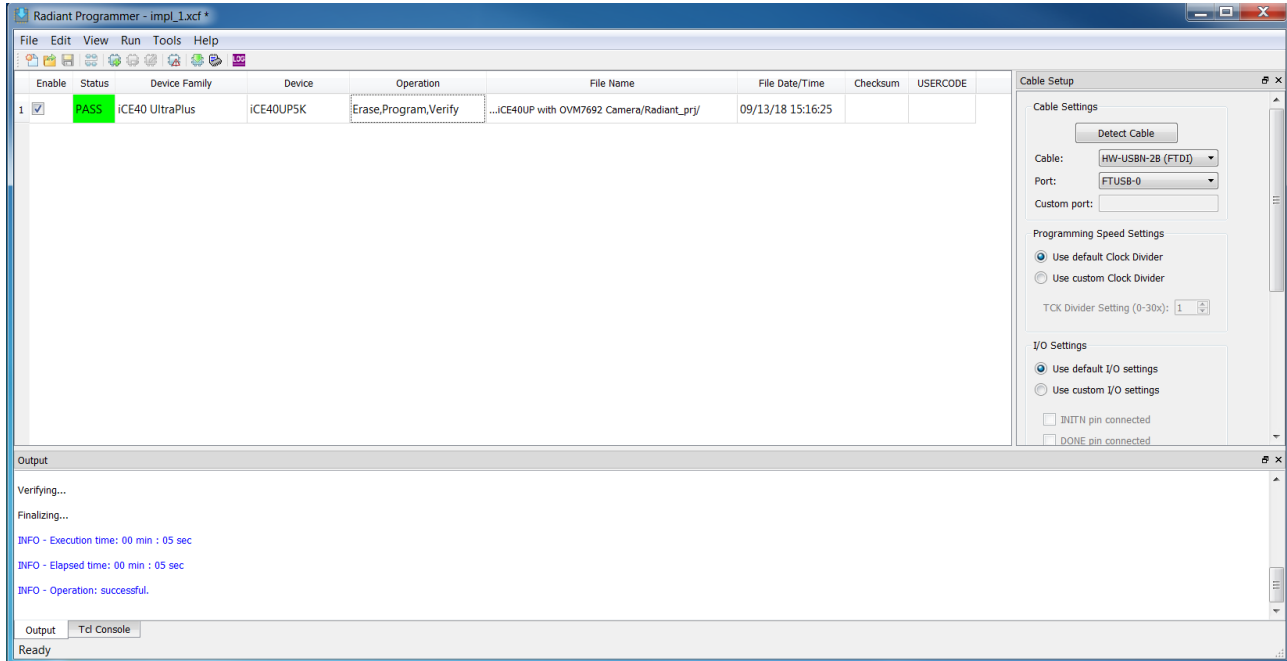

Figure 3.2. Lattice Radiant Programmer
2. Launch Lattice Radiant Programmer (Figure 3.2).